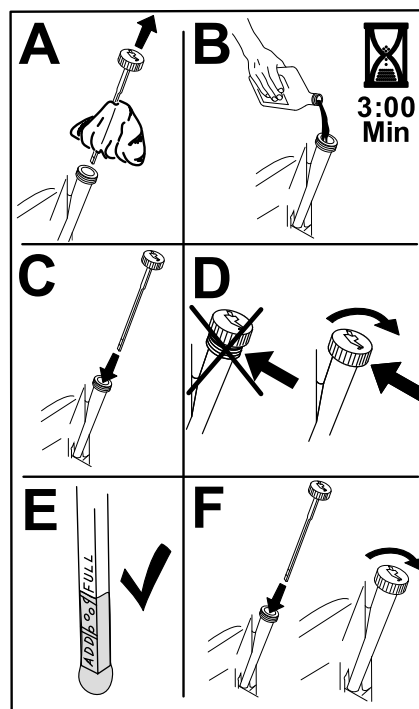

Figure 77
6. Slowly pour approximately 80% of the specified oil into the filler tube and slowly add the additional oil to bring it to the Full mark (Figure 77).